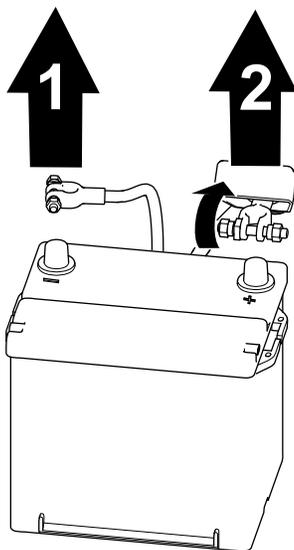

Figure 63
1. Remove the negative battery cable from the battery post (Figure 63).